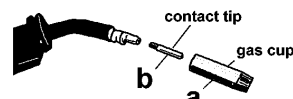

fig. 5
- 3.5.6. Remove gas cup (fig. 5.a) and contact tip (b) from end of torch as follows:
- c) Turn gas cup **clockwise only** (fig. 5) and pull cup out to the right.
- c) Cut wire so that it is just protruding from the cup (fig. 5).